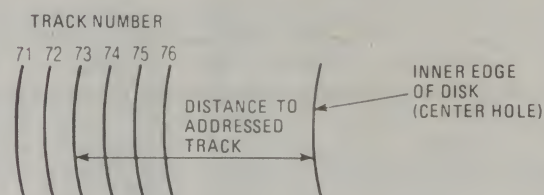

Fig. 2: The disk surface is divided into a series of concentric tracks to allow faster data access.
To allow more rapid access of data on a floppy disk, a series of concentric tracks is arranged, with each track located at a specific distance from the centre (or the edge) of the disk, as shown in Fig. 2. Now each track can be identified easily or addressed by its specific location. Although there is a standard number of tracks (77) in the IBM 8-inch disk format, some manufacturers use different numbers of tracks. Some floppy disks are single-sided, with data stored on one side of the disk, while others are available with tracks and data stored both sides (double-sided floppies).